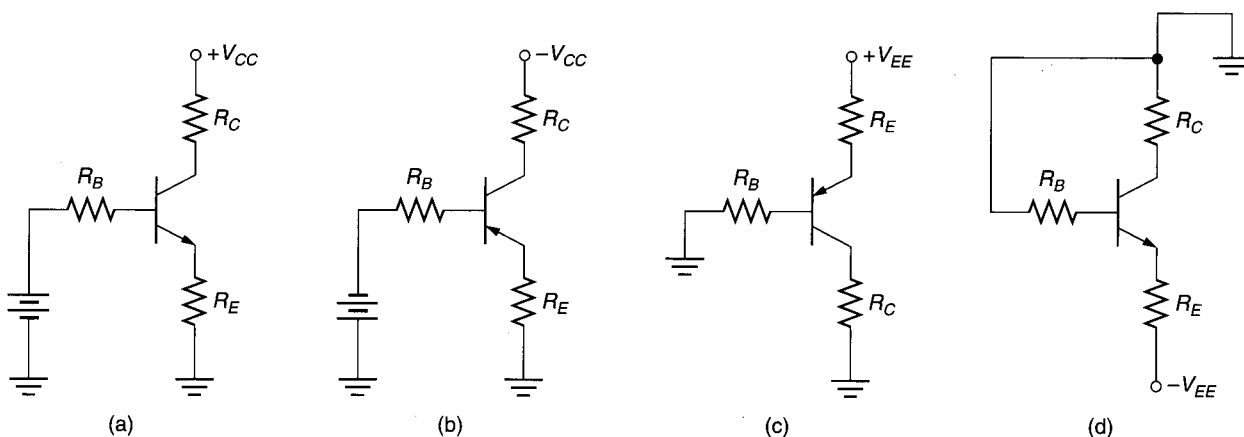

FIGURE 6.40
24. For each circuit shown in Figure 6.40, identify the type of transistor and indicate the directions of the terminal currents.